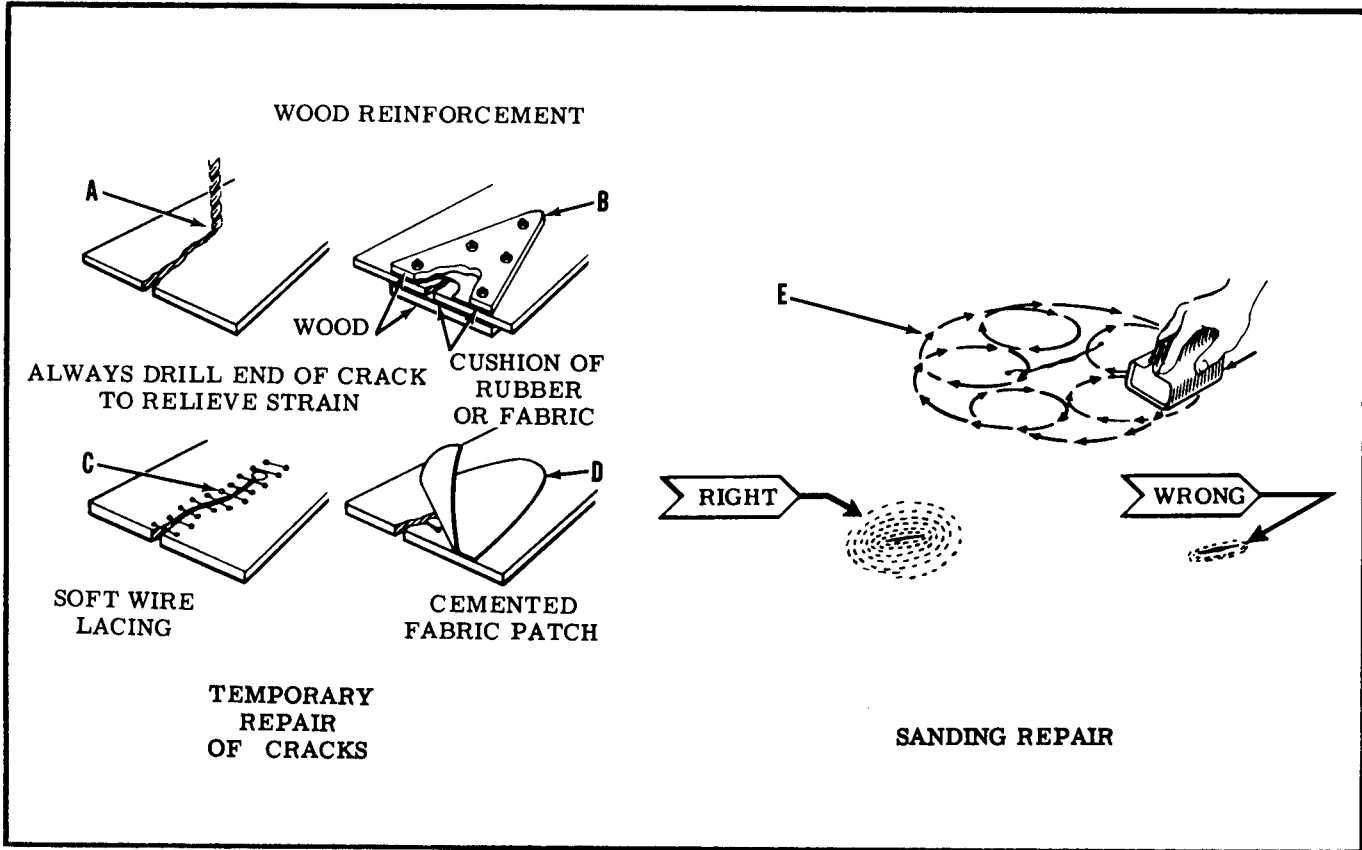

Figure 3-1. Repair of Windows and Windshield
**3-6. CRACKS.** (See figure 3-1.)